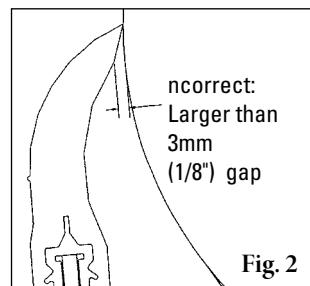

Fig. 2
- Pole location too far out - The initial blade/belt contact gap will be larger than 3mm (1/8") (Fig. 2). If the blade is correctly tensioned it may flip through before it is fully worn. If tensioned too lightly, it will develop the "smile effect" quickly and not clean properly.